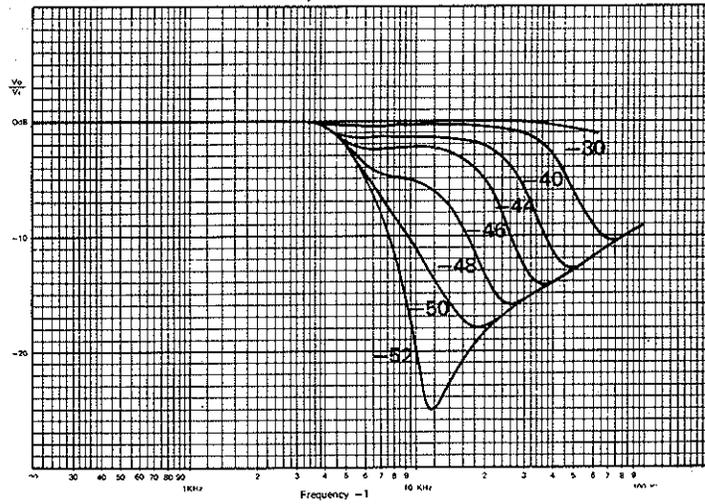
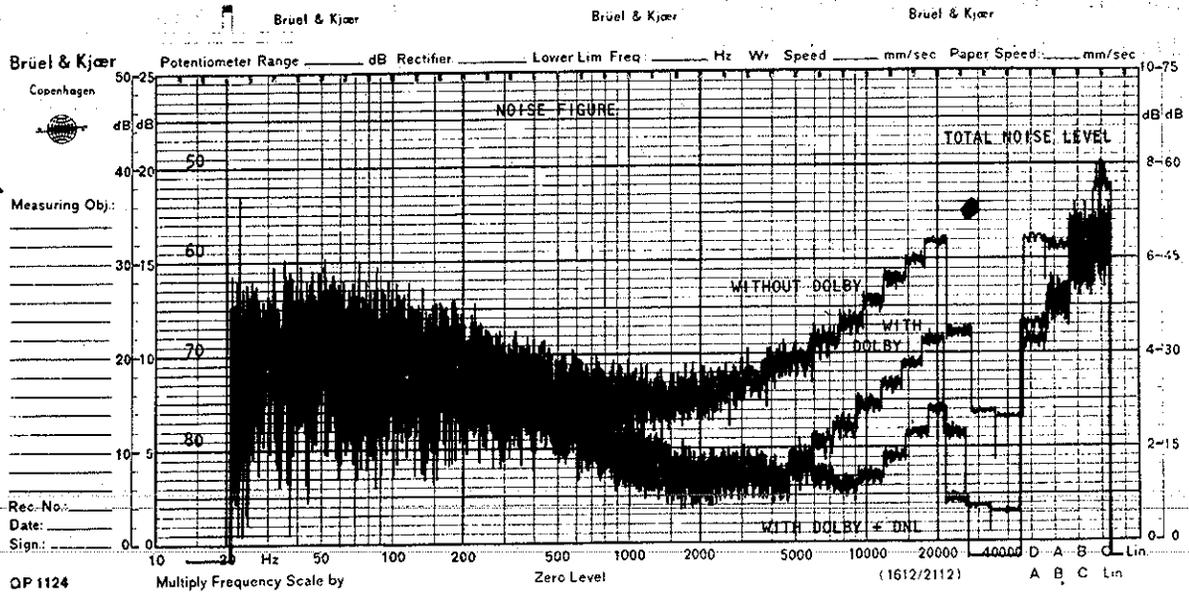

Fig.9 Dynamic Noise Limiter Steady-State Characteristics
Fig.10 Noise Figure
Fig.9 shows the typical characteristics, and Fig.10 is the frequency analysis data for the noise component by a 1/3 octave filter which shows results for three cases; (1) without noise reduction, (2) with only the Dolby noise reduction system, and (3) with the Dolby noise reduction system plus the dynamic noise limiter.